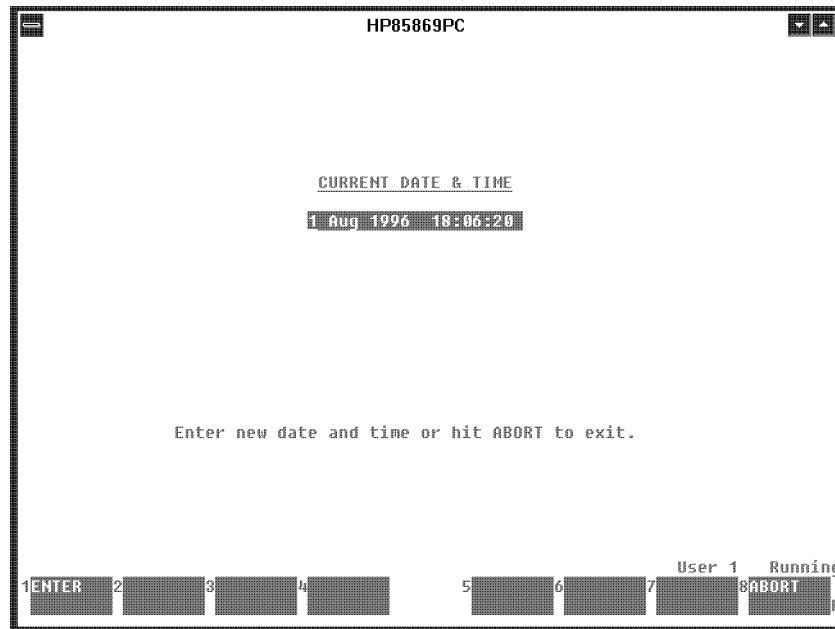

Figure 10-6. System Clock Prompt Screen
1. Press the **TimeDate** softkey on the system utility menu. A display similar to Figure 10-6 is displayed on your computer screen.
1. Press the **BWi** softkey on the system utility menu. A display similar to Figure 10-6 is displayed on your computer screen.